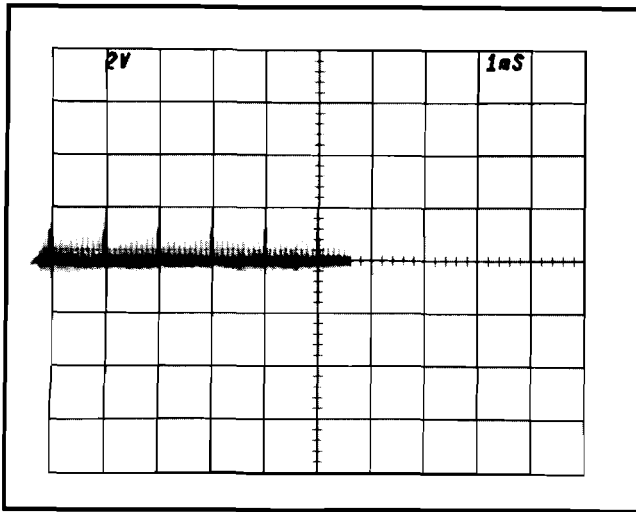

Fig. 5-9. CRT display when checking sweep length.
- b. Move the eleventh 1 ms marker to the center vertical line with the horizontal POSITION control. See Fig. 5-9.